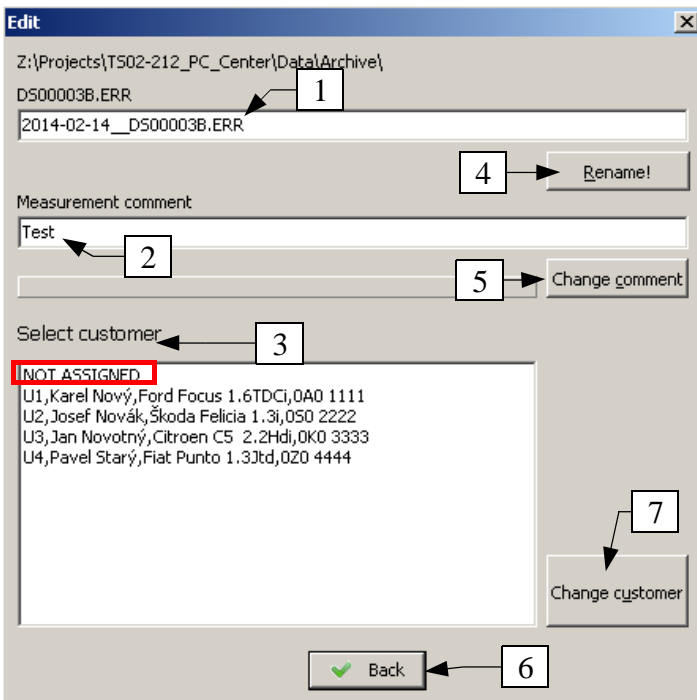

Figure 8.7
Saved data can be modified after clicking on the Modify file icon (Figure 8.7 - 4). You can alter or add informations about any saved oscilloscope or diagnosis file. The file's name, measurement description and customer assignment can be changed. Changing file name is done in the window (1). You can write file's new name here and by clicking Rename! (4) the name is changed. Changing or adding of a measurement comment is done in the window (2) following the same procedure as in renaming file. The window (3) is designed for changing customer assignment. To assign a new customer to the record, click on his or her name in the list and click on the Change customer icon. If you want to remove an assignment, click on the sign NOT ASSIGNED (highlighted on Figure 8.7). If you don't want to do any changes anymore, click on the Back icon (6).